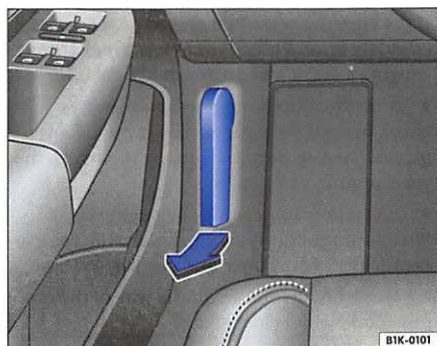

Fig. 4 Detail of the footwell: the release lever for the engine hood is located in the footwell on the driver side
- Pull the release lever underneath the instrument panel in the direction of the arrow ⇒ **fig. 4**. The engine hood is released from its latch by a spring mechanism ⇒ .